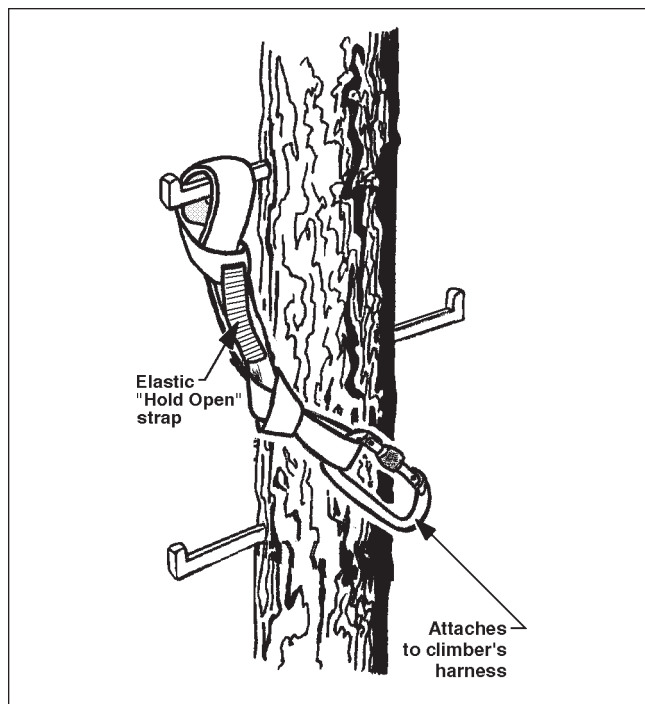

Figure 5f—Pole steps.
- B. Fasten one end of the sling securely to the safety harness tie-in point(s). The other end of the sling should have an adjustable loop so it can be tightened quickly around a pole step (figure 5f).